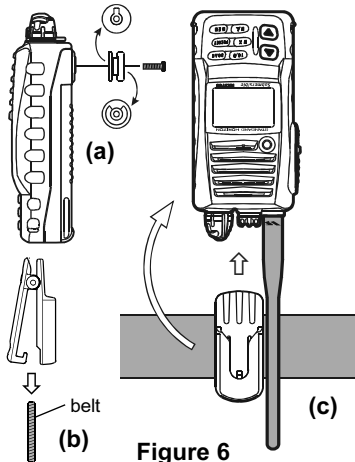

Figure 6
1. Connect the hanger to the rear of the **HX370S**, with the notch pointing directly up, using the supplied screw (Figure 6-a).
2. Clip the Quick Draw Belt Clip to your belt (Figure 6-b).
4. To remove the **HX370S** from the Quick Draw Belt Clip, rotate the **HX370S** 180 degrees, then slide the transceiver out from the Quick Draw Belt Clip (Figure 6-c).